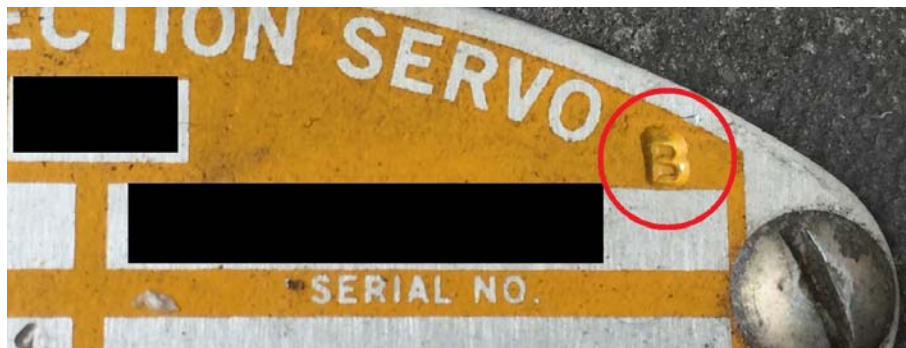

Figure 4
10. Upon installing the valve kit in the field, the servo data tag must be marked in the upper right quadrant with the letter "B" as shown in the red circle in Figure 4.